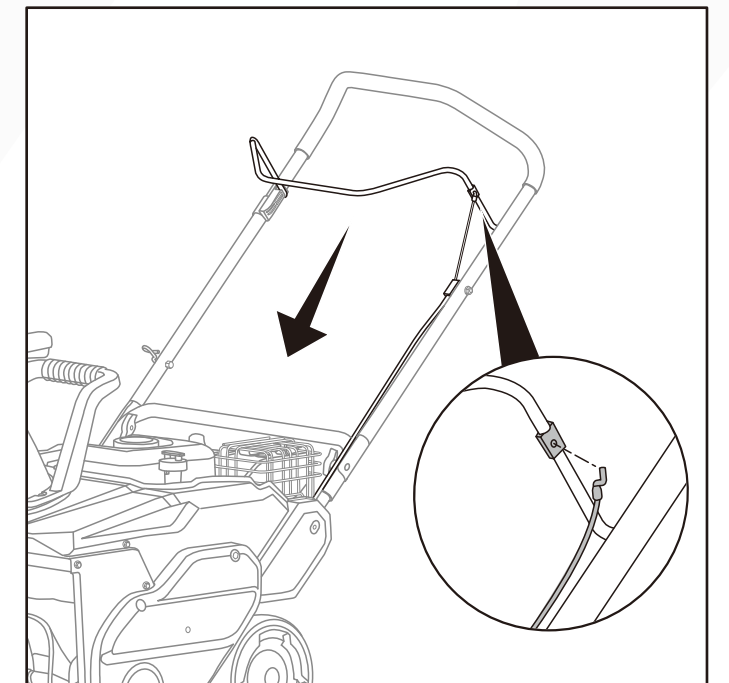

Fig.2C
3. Gently press the auger control handle down slightly and insert the control cable hook into the hole on the control handle. (Fig.2C)